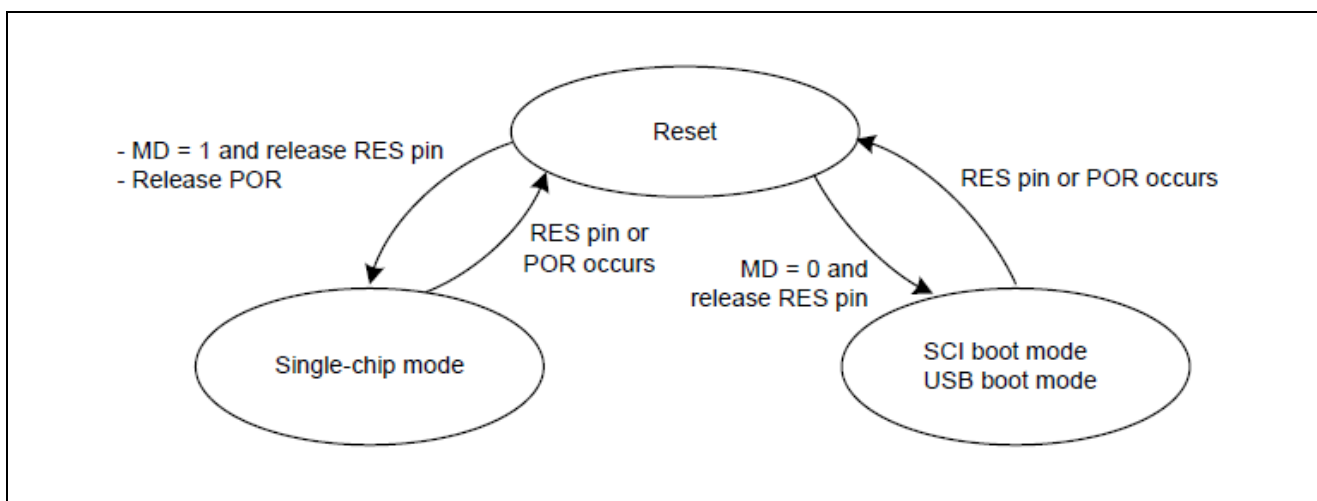

Figure 7. Mode Setting Pin level and Operating Mode
Figure 7 shows operating mode transitions as determined by the Mode-Setting (MD) pin.